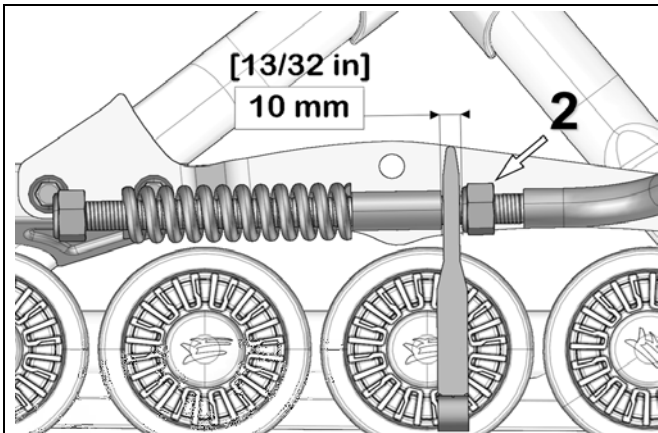

Figure 9
- Set the nut (2) to obtain a distance of 10 mm between nut and stabilizing arm guide as shown on Figure 9.